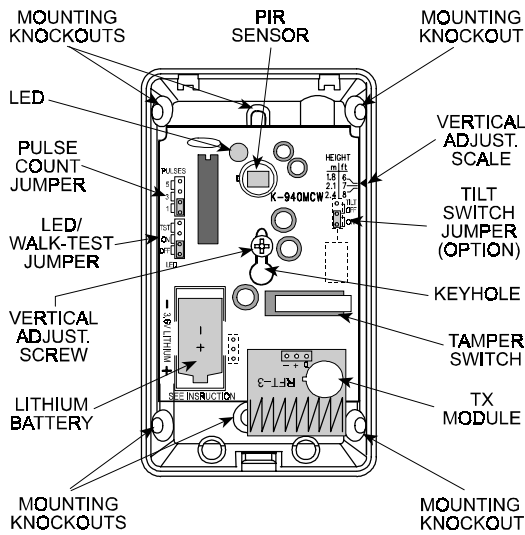

Figure 3. Components Layout
3.1 Battery Insertion (see Figure 3)
Note: For wall surface mounting, use the two elongated knockouts at the middle of the base. For corner mounting, use two diagonally opposite knockouts at the angled sides of the base (see Figure 3).